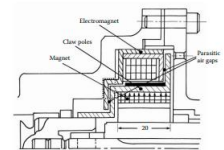

FIGURE 7.61 Improved claw pole actuator assembly. (Courtesy of Delphi Corp.)
- An improved actuator configuration can be obtained by a special rearrangement wherein the magnet is attached to different assembly components, as shown in Figure 7.61
- Because certain measures were taken to decrease the MMF drop at the parasitic air gaps, it was necessary to increase the actuator package by a small volume, as represented by the dotted line in Figure 7.61.